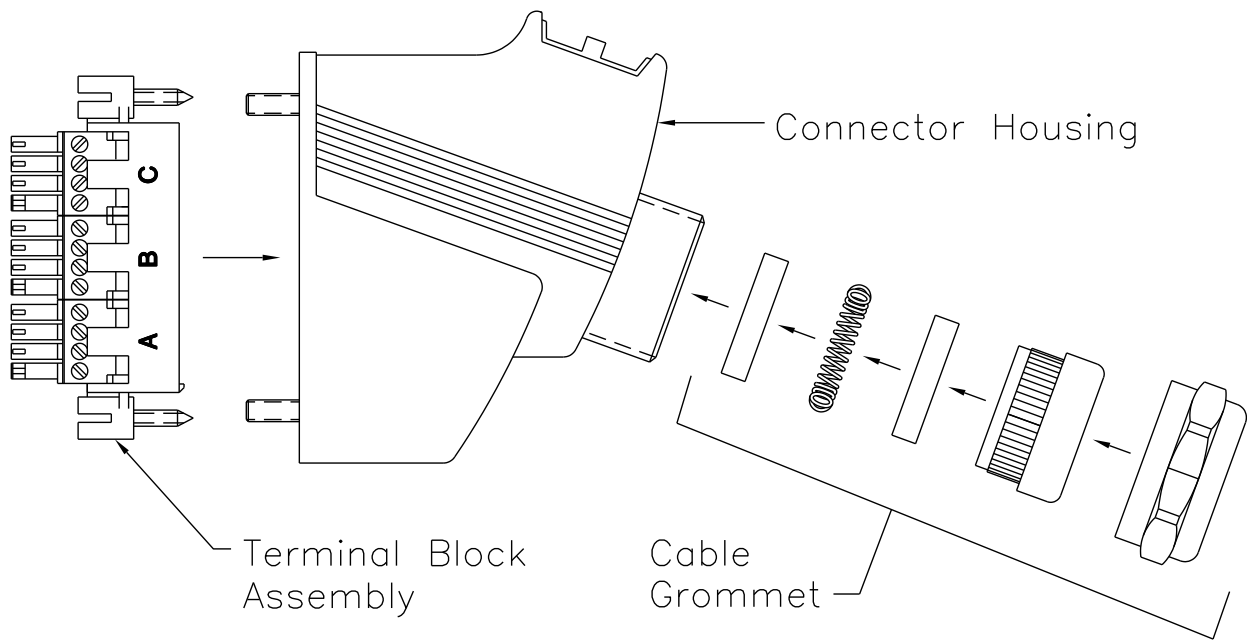

Figure 5: Assembly of Connector P2
Interlock and output connections are made to connector P2 on the rear of the controller. P2 consists of three, 8 position terminal blocks A, B, and C (see Figure 5). To wire these terminal blocks, perform the following (see Figure 5):
3. Feed the Output / Interlock cable(s) through the cable grommet attached to the connector housing and pull out the other side. It may be necessary to remove the cable grommet to fit the cable(s) through. If so, slide the grommet connections onto the cable(s) in the order shown in Figure 5 before pulling the cable through the connector housing.